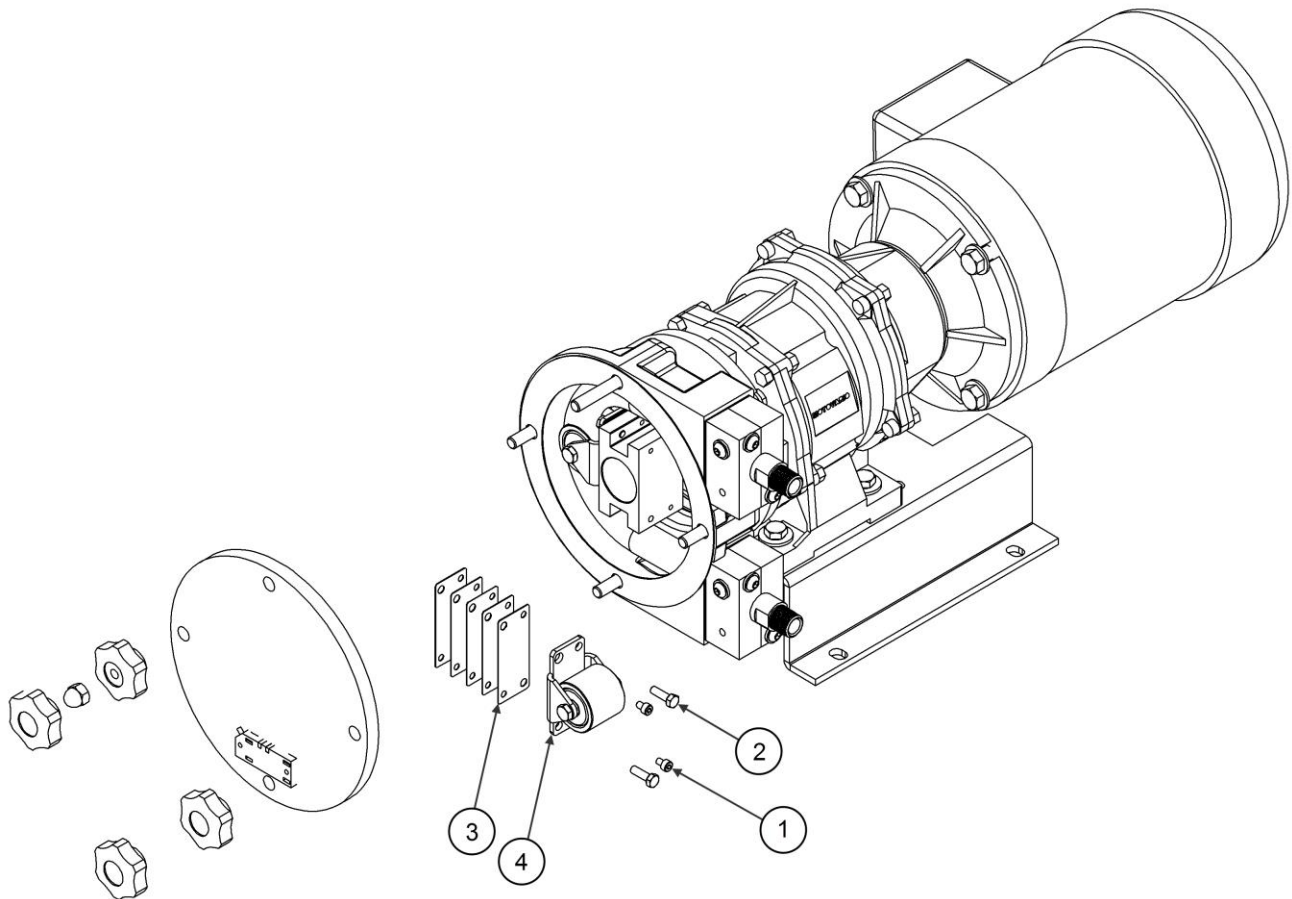

Figure 5- AMP Shimming
5. Refer to Figure 5 for item identification. Remove the front cover knobs and locking hardware to access the inside of the pump, continuing to follow safety precautions as appropriate.